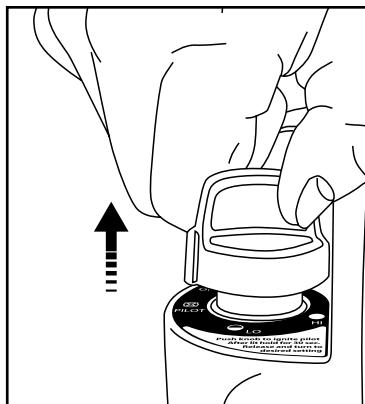

Figure 4: "Release knob."
- After pilot lights, hold down pilot button for 30 -60 seconds and then release knob. Knob should return to fully extended position; see Figure 4. To operate heater slightly depress knob and gently turn to lock in the "HI" position to light burner tile. Leave on "HI" position until burner tile turns bright orange.
- After pilot lights, hold down pilot button for 30 -60 seconds and then release knob. Knob should return to fully extended position. (Fig 4) The pilot should remain lit. To operate heater slightly depress knob and gently turn to lock in the "HI" position to light burner tile. Leave on "HI" position until burner tile turns bright orange.
- After pilot lights, hold down for 30 -60 seconds and then release knob. Knob should return to fully extended position; see Figure 4. To operate heater slightly depress knob and gently turn to lock in the "HI" position to light burner tile. Leave on "HI" position until burner tile turns bright orange.